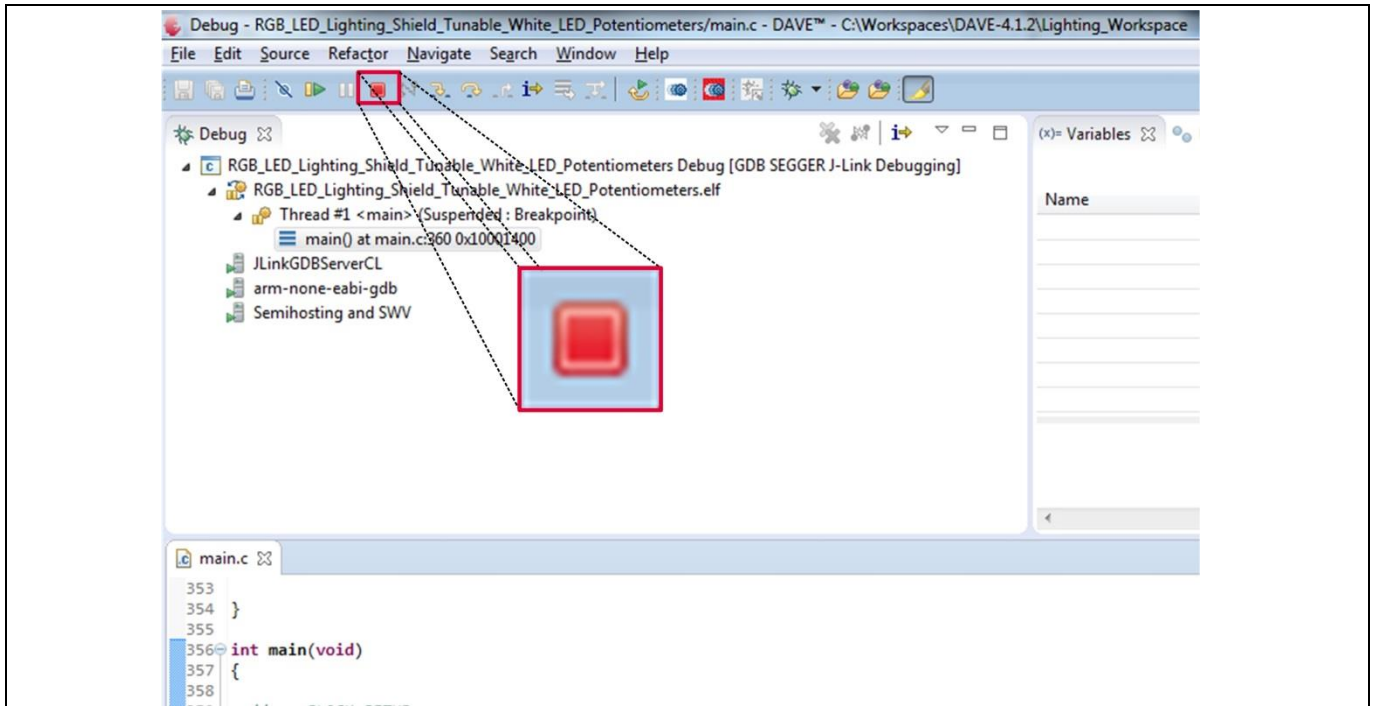

Figure 25 Terminate icon to terminate debug mode
6. Click Ctrl+F2 or the terminate icon on the DAVE™ IDE toolbar (Figure 25) to terminate debugging.